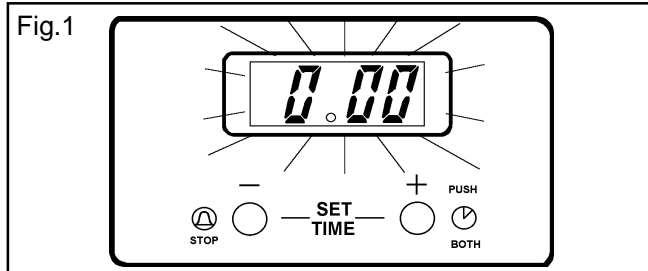
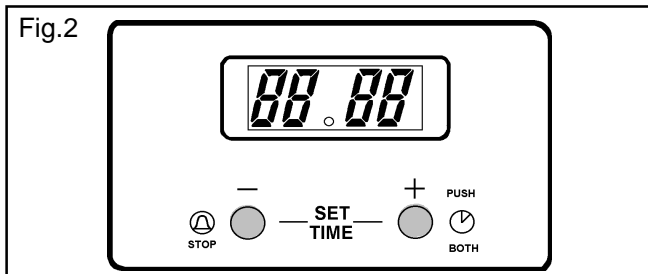
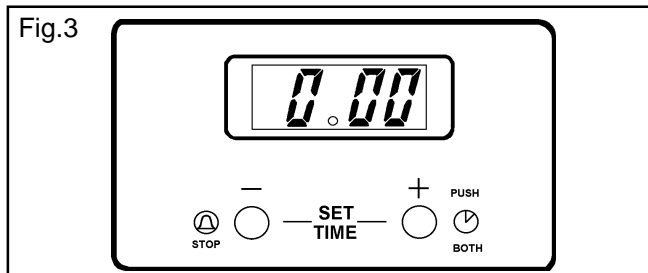

Fig.2
Fig.3
Fig.4
Press buttons (1) and (2) together. The display will momentarily read 88.88. See Fig. 2. Release buttons, 0.00 will appear in the display as Fig. 3. **Within 5 seconds** press button 2, 12.00 will show in the display as Fig. 4.